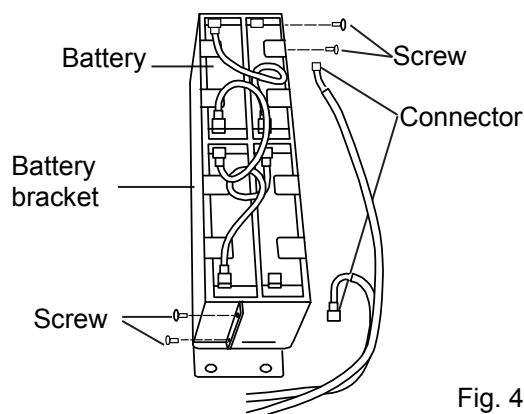

Fig. 4
4. Remove the connector of the battery, and take out a battery bracket from the side table. And remove 4 screws of the battery bracket which fixes a battery (4 pcs). (Fig. 4)